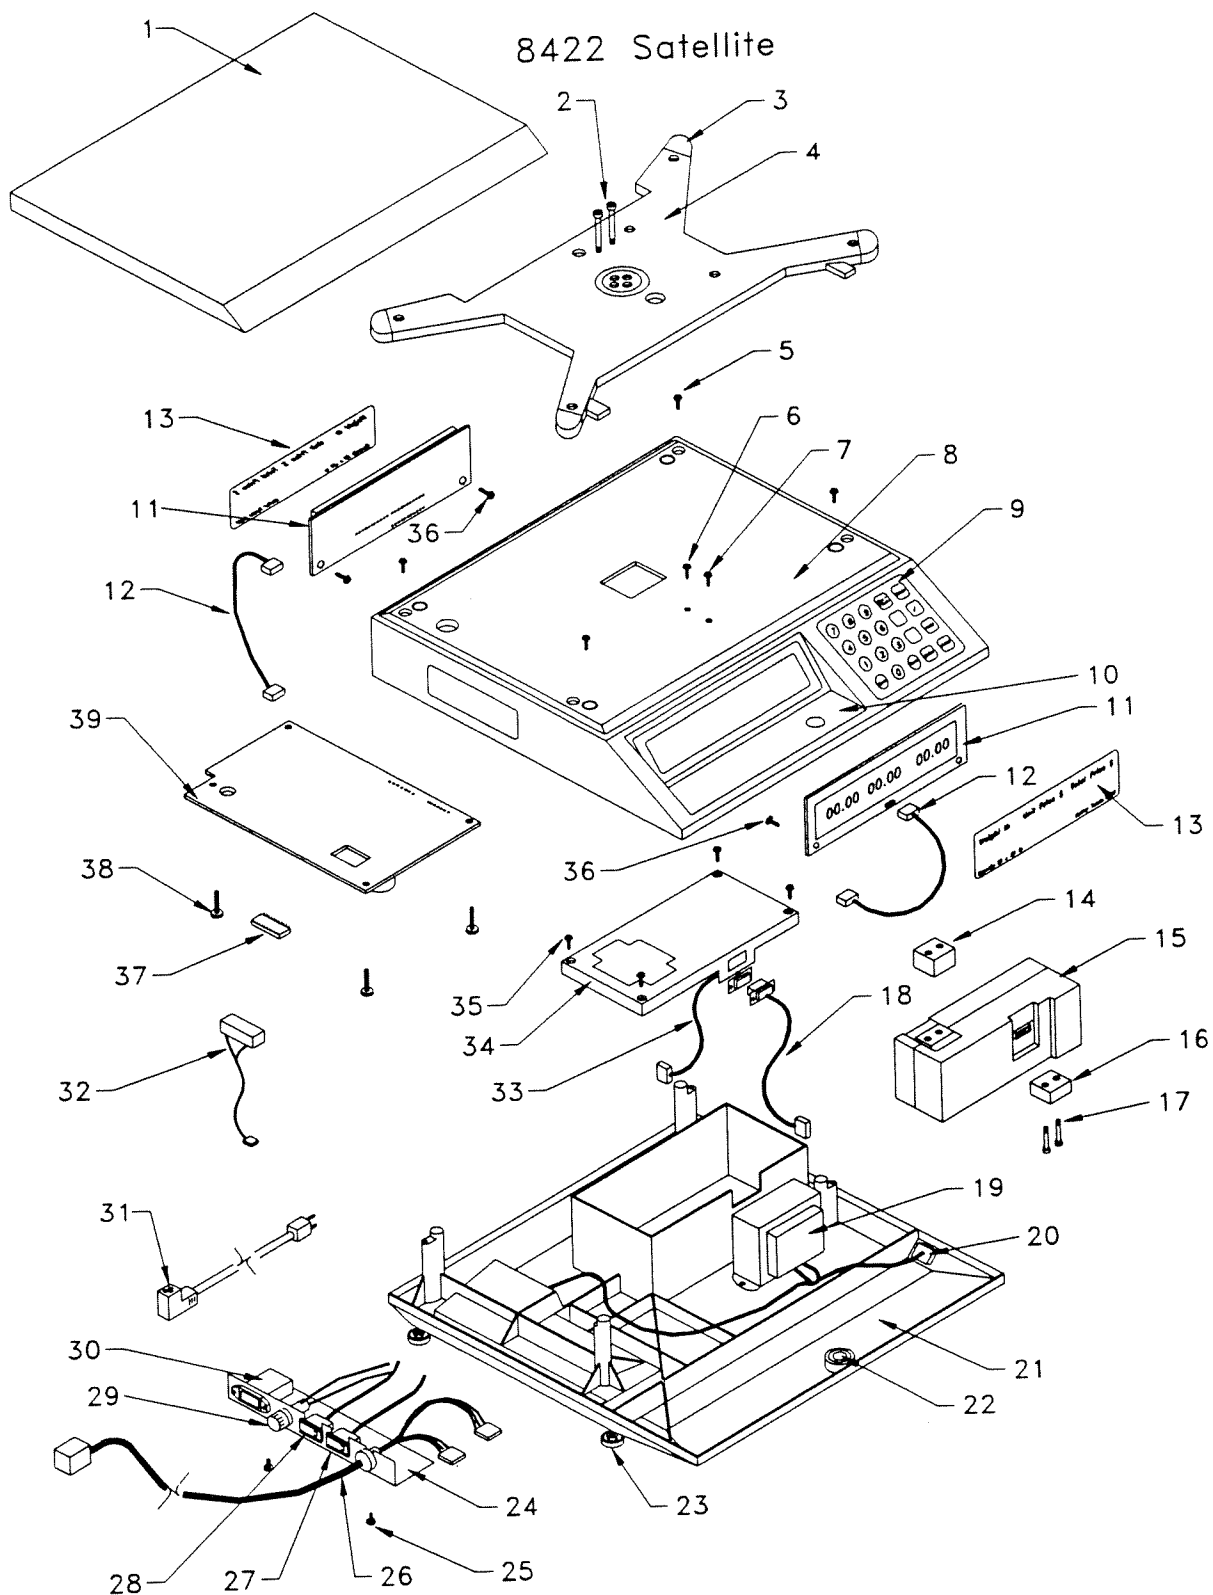

Figure 9.1 8422 Satellite
9.1 8422 SATELLITE FIGURE 9.1
9.1 8422 SATELLITE REPLACEMENT PARTS FIGURE 9.1